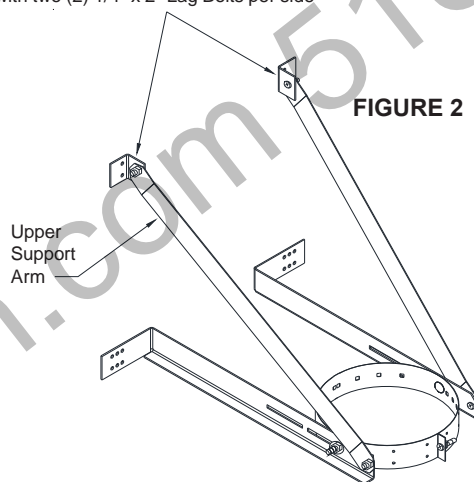

FIGURE 2
3. Orient the Upper Support Arms as shown in Figure 2 and secure them to the lower support arms with bolts, washers and nuts at location indicated.
The completed Extended Wall Support assembly should now look like Figure 2. Snug up all fasteners but allow for some adjustability.